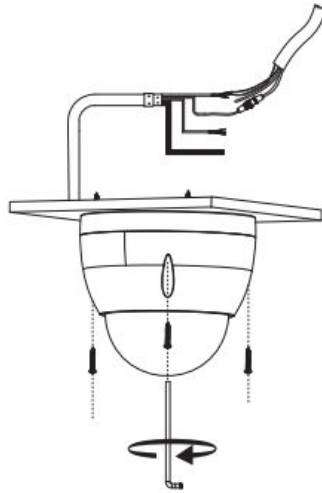

Figure 2-5
**Step 5** Replace and secure the dome cover as shown in Figure 2-5.